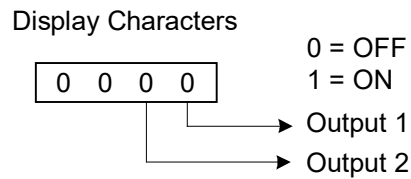

Figure 20: Relay output Test Display
2.	Press the ► RIGHT ARROW key and the display will show the status of relay outputs 1 and 2. See Figure 20.